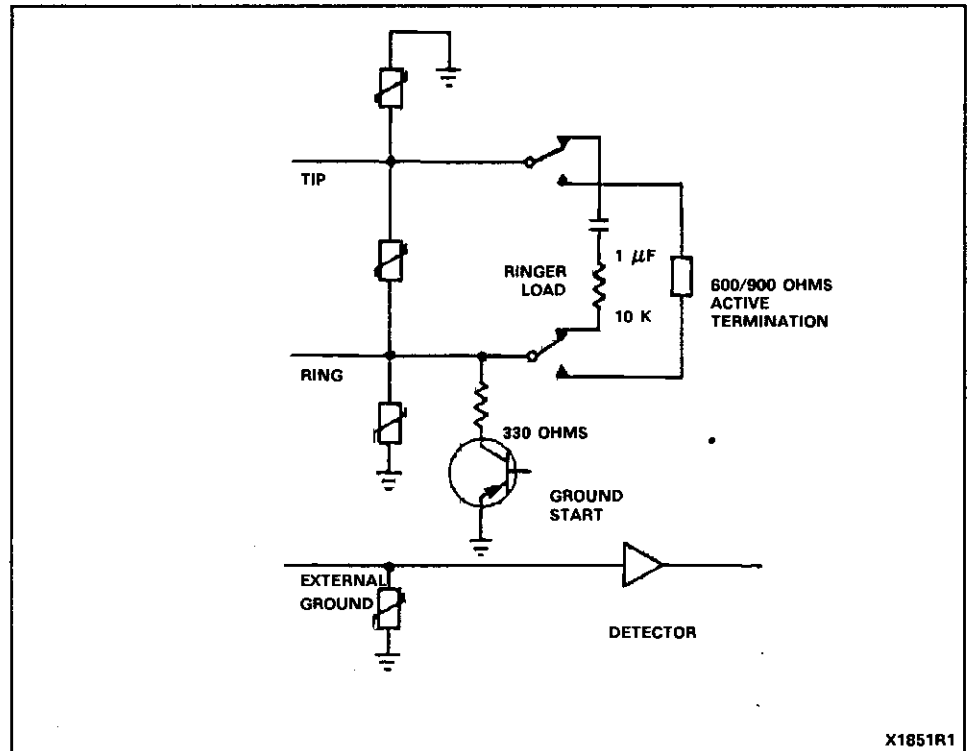

Figure 2-4 Trunk Interface Detector
2.21 The trunk interface provides several functions associated with adapting the SX-20 system to suit the various stages in establishing a trunk call. It also protects the SX-20 system from over voltages (refer to Figure 2-4).
2.22 During ringing of the SX-20 system from the CO, the SX-20 system must present a termination equivalent to that of a standard telephone. This is achieved by means of the ringer load shown in Figure 2-4. The high voltage used during ringing, and other high voltages which could arise on the trunk, could damage the SX-20 circuitry. To avoid this, the SX-20 system is protected by varistors, connected as shown in Figure 2-4. When the voltages between the tip, ring and ground increase, the resistance between them decreases rapidly, and the associated increase in current load prevents the input voltage from rising above 250 V.